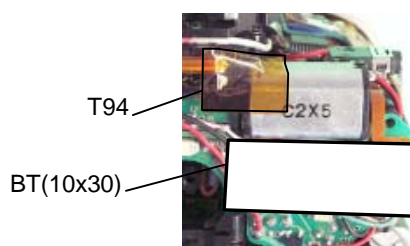

Fig.11
- Stick T94 (10x13) and BT (10x30) as shown in Fig.11.